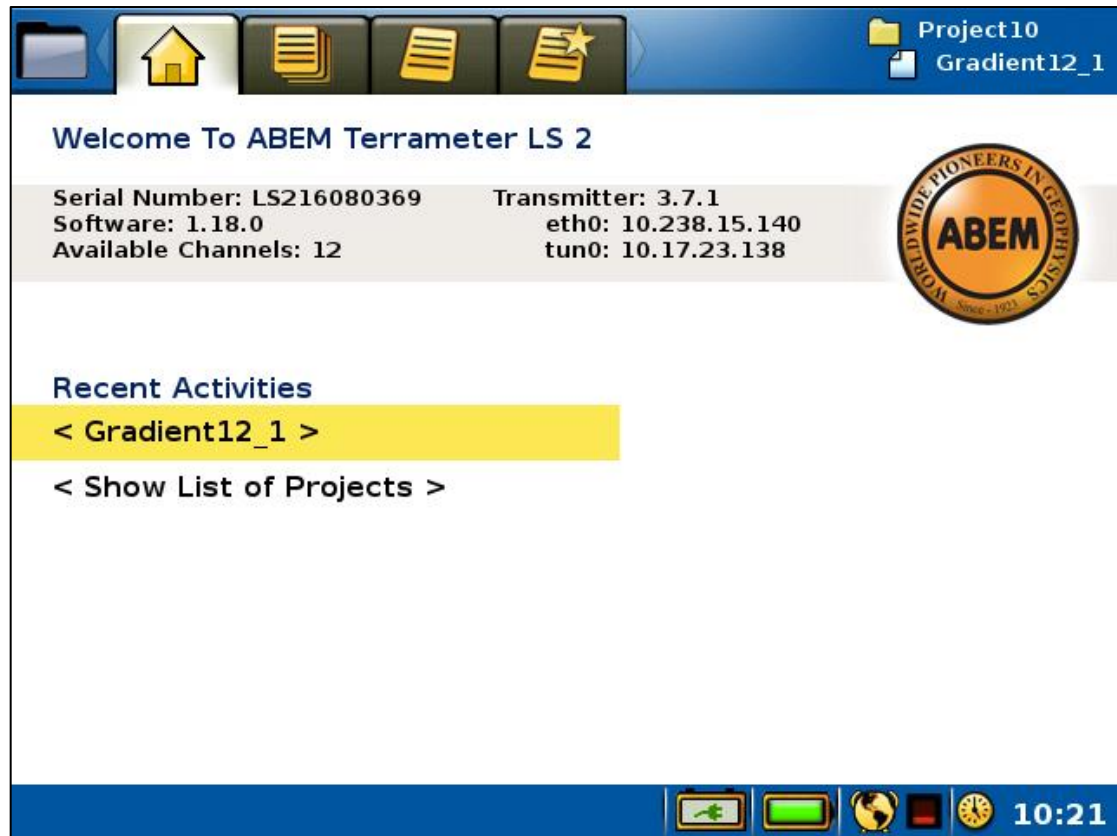

Figure 10 The Start View
When starting the Terrameter LS 2 the “*Projects/Welcome*” *View* (Figure 10) will appear. Here the serial number of the instrument, the application software version, the number of measuring channels, the transmitter firmware version, the network IP address and the VPN tunnel address are displayed. Furthermore the name of the most recent measurement activity is displayed at the top right part of the *Screen*.
- Otherwise if the active *Project* does have a *Task* then the name of the active *Task* will be shown. See Figure 10 for an example. Pressing <Ok> will in this case change to the “*Measure/Progress*” View of this *Task*. This View is explained in chapter 6.9.1